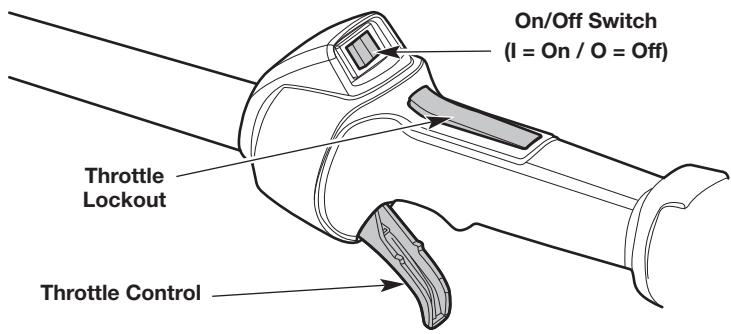

Fig. 11
**NOTE:** There is no need to turn the unit on. The On/Off switch is in the **On (I)** position at all times (Fig. 11).
3. Press and hold the throttle lockout (Fig. 11). Squeeze and hold the throttle control (Fig. 11).
2. Press and hold the On/Off switch in the **Off (O)** position until the engine comes to a complete stop (Fig. 11).
**NOTE:** To prevent the throttle control from being squeezed accidentally, this unit has a throttle lockout. The throttle control cannot be squeezed unless the throttle lockout is also engaged. **NOTE:** There is no need to turn the unit on. The On/Off switch is in the **On (I)** position at all times (Fig. 11).
4. Press and hold the throttle lockout (Fig. 11). Squeeze and hold the throttle control (Fig. 11).